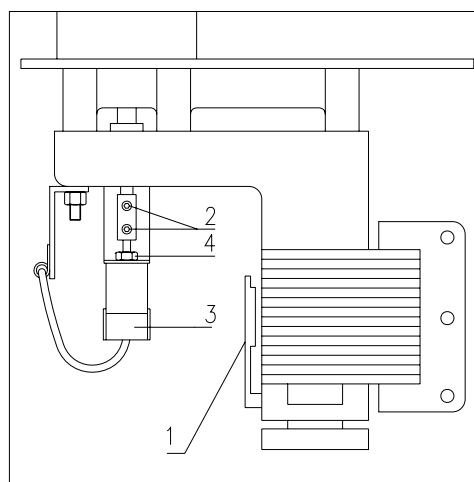

FIG. 19
8.10 SUBSTITUTION DU MOTOREDUCTEUR DE ROTATION DE LA COLONNE FIG. 19